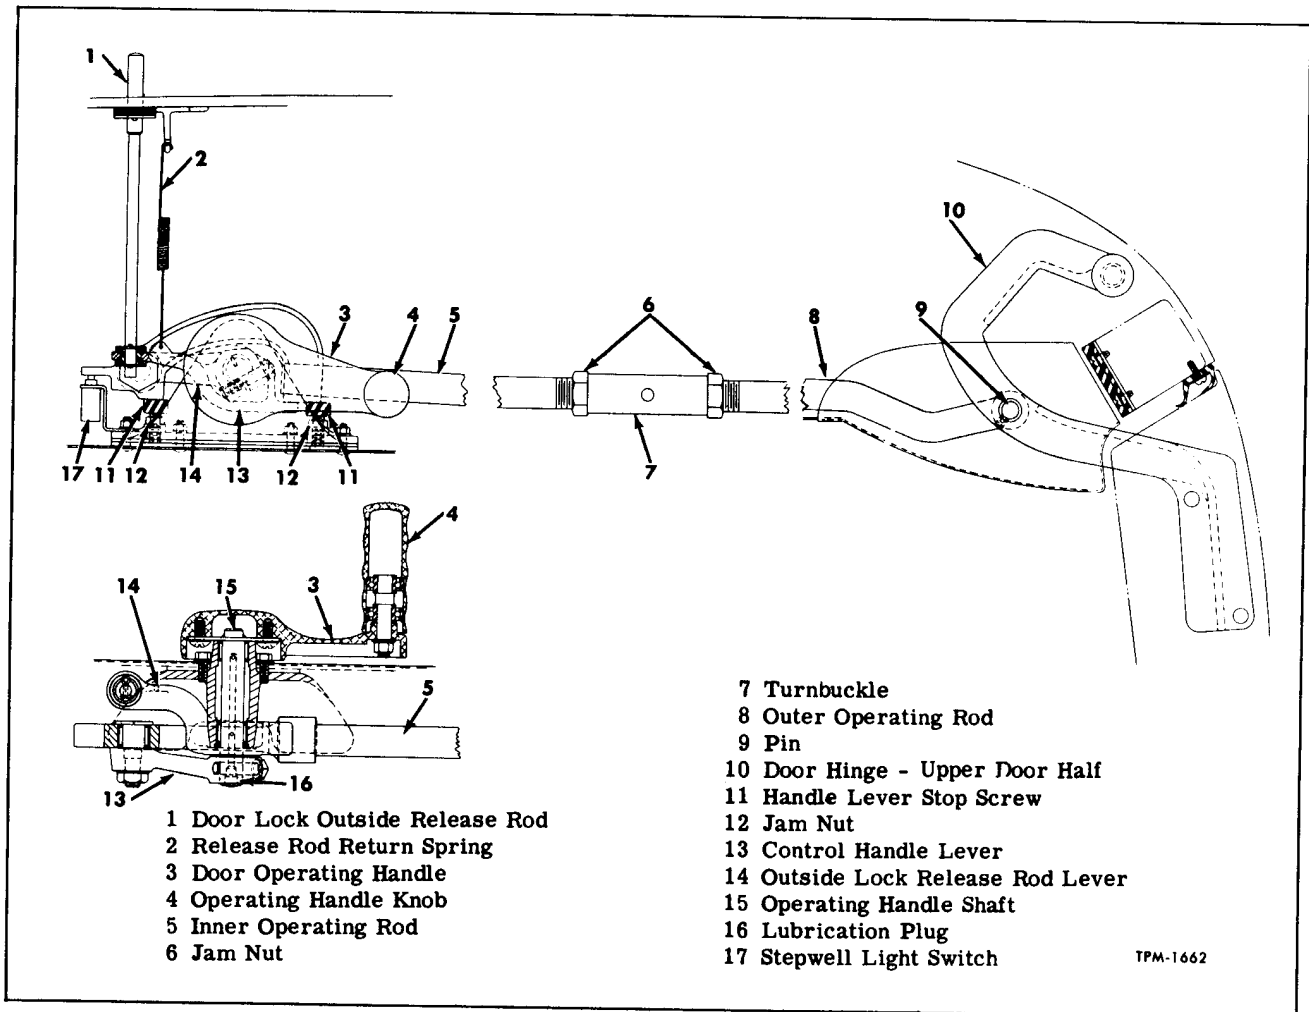

Figure 4—Entrance Door Control Linkage
1. Loosen two lock nuts (fig. 4) securing turnbuckle on release latch control link.
between dash and door. Mechanism is so designed that door is locked firmly in either fully open, or fully closed position. Door, however, can be opened from outside vehicle by pushing in on door release rod knob (1, fig. 4) located in front panel below windshield.
NOTE: Key numbers in text refer to figure 4.